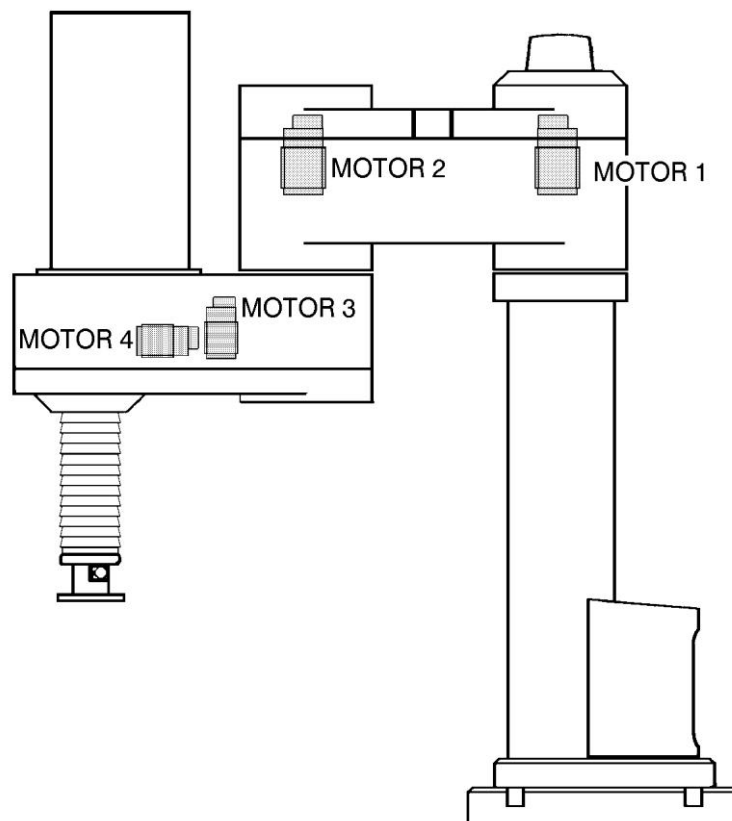

Figure 5-4: Motor Locations in SCORA-ER 14Pro
- Since mounting motors on the robot arm adds to the robot's weight and inertia, the robot motors must be light and compact, yet powerful. As shown in Figure 5-4, the motors of the SCORA-ER 14Pro are located close to the axes they drive.